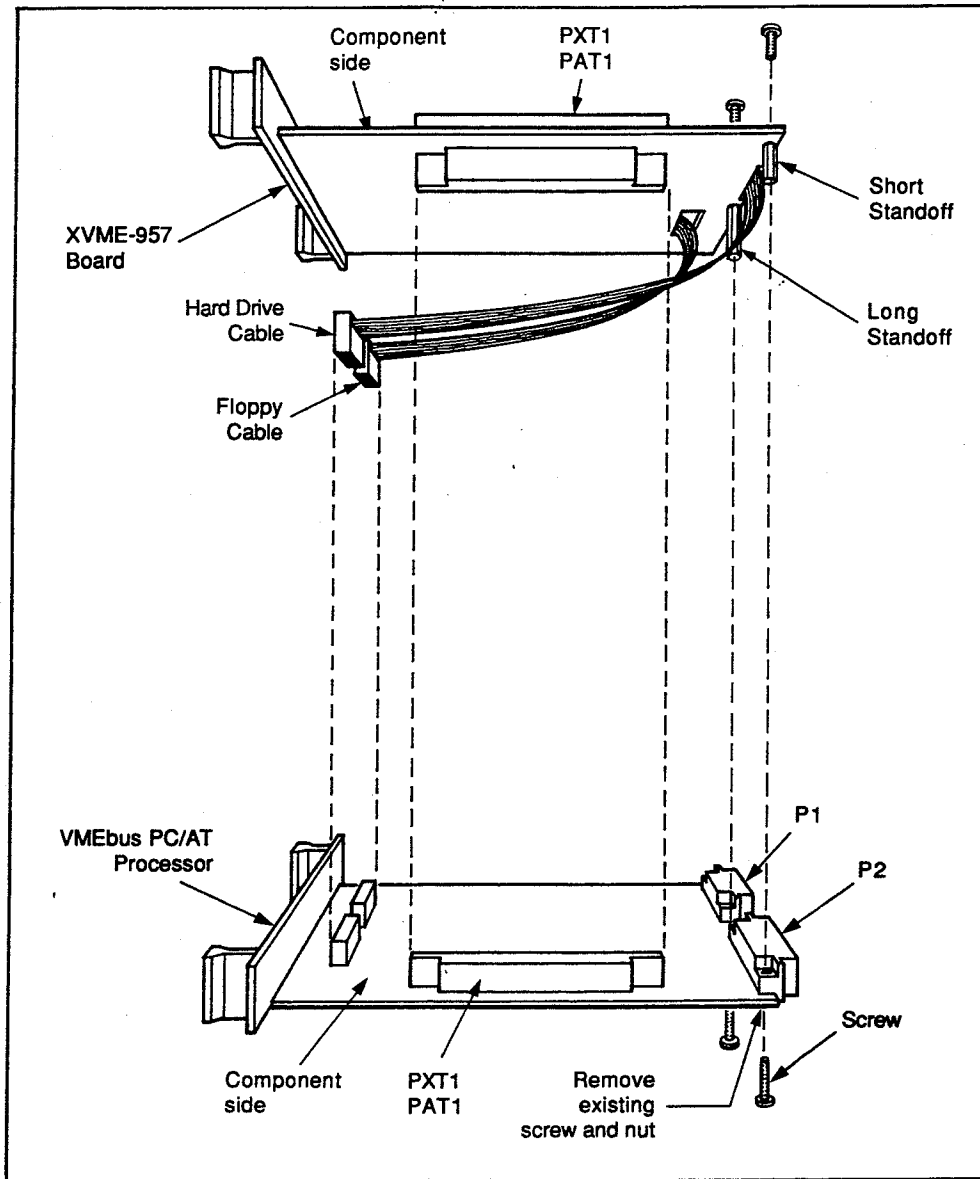

Figure 2-2. Installation of the XVME-957/1x onto a CPU
1. Remove and discard the connector P2 screw and nut closest to the bottom corner of the CPU module. Refer to Figure 2-2.
2. Attach the long female/female standoff to the solder side of the XVME-957/1x module, as illustrated in Figure 2-2, using a short screw.
3. Attach the short female/female standoff to the solder side of the XVME-957/1x module, as illustrated in Figure 2-2, using a short screw.
4. Connect the floppy drive and hard drive cables to the CPU module, as shown in Figure 2-2.